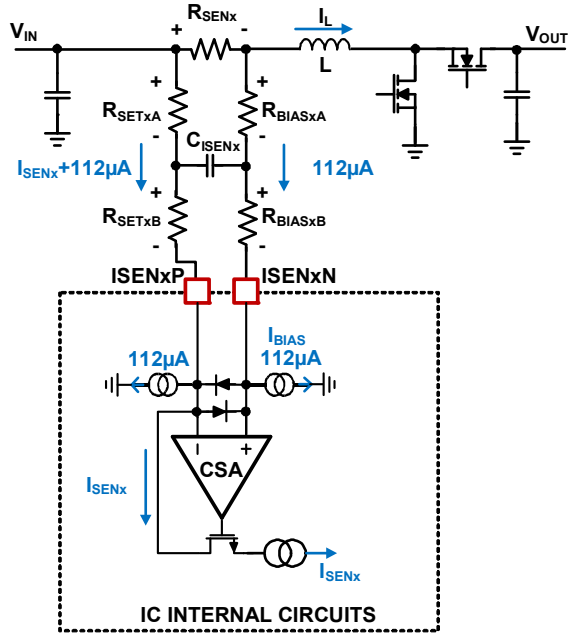

FIGURE 60. CURRENT-SENSING BLOCK DIAGRAM
The ISL78227 peak current control architecture senses the inductor current continuously for fast response. A sense resistor is placed in series with the power inductor for each phase. The ISL78227 Current Sense Amplifiers (CSA) continuously sense the respective inductor current as shown in Figure 60 on page 31 by sensing the voltage signal across the sense resistor, RSENx (where “x” indicates the specific phase number and same note applied throughout this document). The sensed current for each active phase is used for peak current mode control loop, phase current balance, individual phase cycle-by-cycle peak current limiting (OC1), individual phase overcurrent fault protection (OC2\_PEAK), input average Constant Current (CC) control and average overcurrent protection (OC\_AVG), diode emulation, and phase drop control. The internal circuitry shown in Figure 60 represents a single phase. This circuitry is repeated for each phase.
The RC network between the  $R_{SENx}$  and  $ISENxP/N$  pins as shown in Figure 60 is the recommended configuration. The  $ISENxP$  pin should be connected to the positive potential of the  $R_{SEN\_CHx}$  through resistor  $R_{SETx}$ , where in Figure 60,  $R_{SETx}$  is composed by  $R_{SETxA}$  plus  $R_{SETxB}$ .  $R_{SET}$  is used to set the current sense gain externally.
Because there is an  $112\mu\text{A}$  bias current sinking to each of the  $ISENxP$  and  $ISENxN$  pins,  $R_{BIASx}$  with the same value to  $R_{SETx}$  should be placed between the  $ISENxN$  pin to the low potential of the  $R_{SENx}$ , where in Figure 60,  $R_{BIASx}$  is composed by  $R_{BIASxA}$  plus  $R_{BIASxB}$ .
It is recommended to have  $R_{SETxA} = R_{BIASxA}$  and  $R_{SETxB} = R_{BIASxB}$ , and insert a capacitor ( $C_{ISENx}$ ) between them as shown in Figure 60. This will form a symmetric noise filter for the small current sense signals. The differential filtering time constant equals to  $(R_{SETxA} + R_{BIASxA}) \cdot C_{ISENx}$ . This time constant is typically selected in range of tens of ns depending on the actual noise levels.